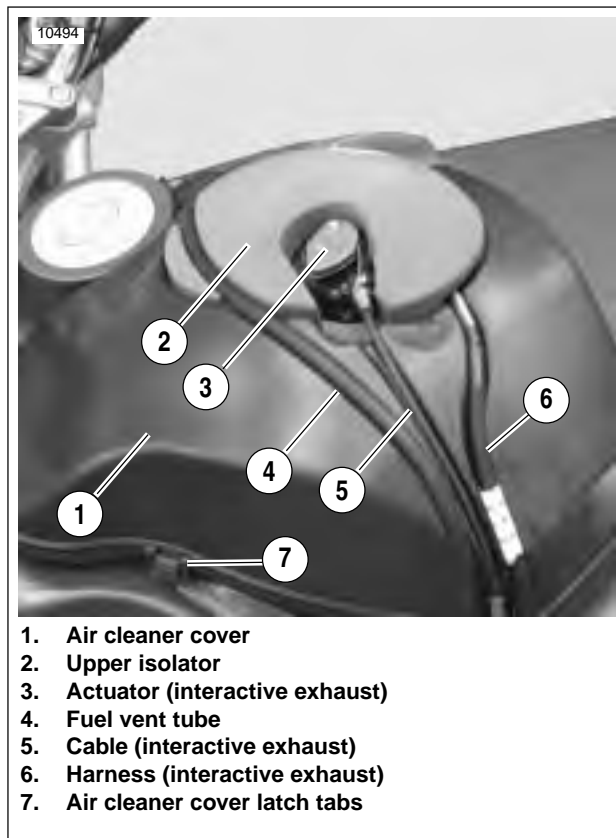

Figure 1-38. Air Cleaner Cover, Fuel Vent Tube and Fuel Vapor Valve (XB12)
3. See Figure 1-38. Remove fuel vent tube (4) from vapor valve at front of air cleaner cover and groove on top of air cleaner cover (1).
4. Remove upper isolator (2) and actuator (3) along with cable (5) and harness (6) from top of air cleaner cover and lay to one side.
5. See Figure 1-38. Unlatch six latching tabs (7) and remove air cleaner cover from base plate.
2. See Figure 1-38. Position air cleaner cover (1) over base plate. Make sure air filter remains correctly positioned.
3. Install air cleaner cover by latching six latch tabs (4) to base plate.